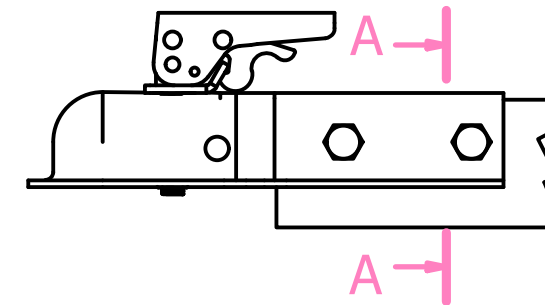

FIGURE 1: STRAIGHT TONGUE
1. For **Class 1** couplers, the preferred method is to use (4) 3/8" bolts through the side holes and torqued to 15-20 ft-lbs (See Figure 1). An alternative method is to use (2) 3/8" grade 5 through bolts and locknuts providing they can be torqued to at least 20 ft-lbs without excessive deformation of the coupler or the trailer tongue.
2. For **Class 2, 3, & 4** coupler, the preferred method is to use (4) 1/2" bolts through the side holes and torqued to 30-35 ft-lbs (See Figure 1). An alternative method is to use (2) 1/2" grade 5 through bolts and locknuts providing they can be torqued to at least 35 ft-lbs without excessive deformation of the coupler or the trailer tongue.